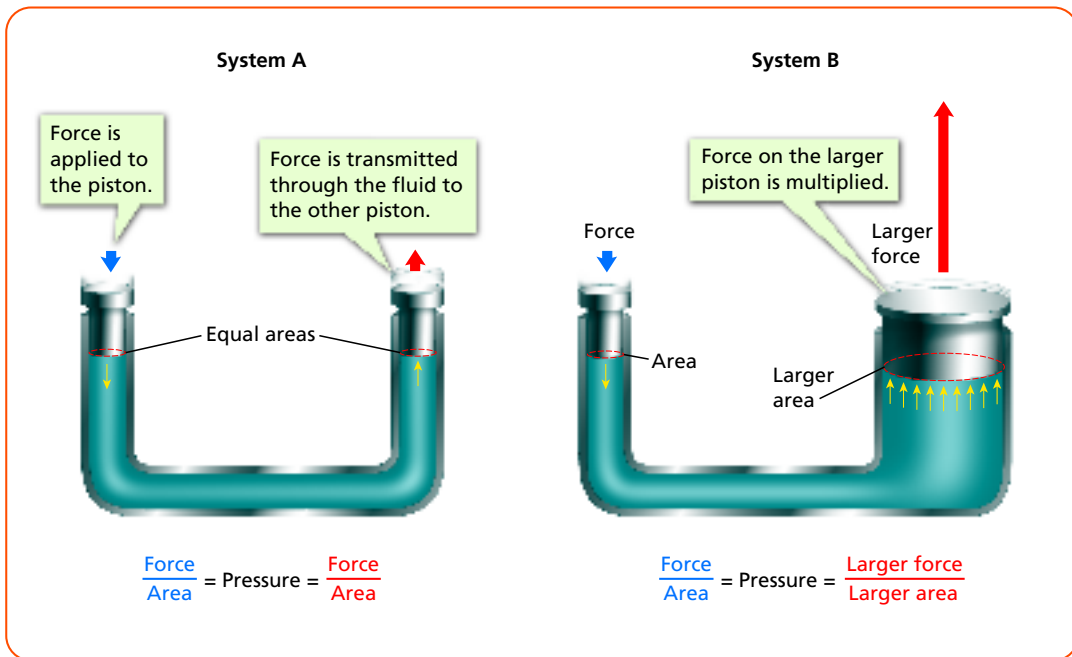

FIGURE 15
**Using Pascal's Principle** You can see Pascal's principle at work in Figure 15, which shows a model of a hydraulic device. A hydraulic device is operated by the movement and force of a fluid. The device consists of two pistons, one at each end of a U-shaped tube. A piston is like a stopper that slides up and down in a tube.
In the hydraulic device in Figure 15, a force applied to the piston on the left produces a lifting force in the piston on the right. The graph shows the relationship between the applied force and the lifting force for two hydraulic lifts.